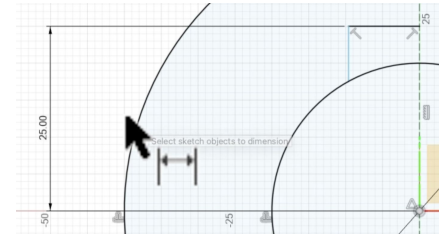

Figure 1.7
- Next, define the sketch by selecting **'Sketch Dimension'** under **'Create'**. Add a dimension from the origin equal to half the width of your key (see Figure 1.7).